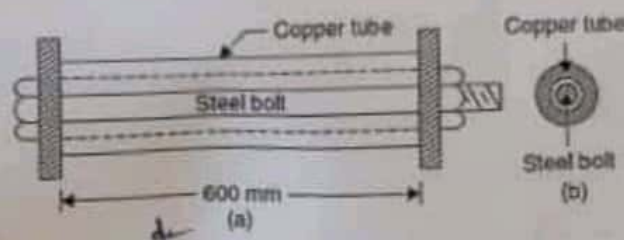

Fig. 1
- 1/✓ A steel bolt of 20 mm diameter passes centrally through a copper tube of internal diameter 28 mm and external diameter 40 mm as shown in Fig.1. The length of whole assembly is 600 mm. After tight fitting of the assembly, the nut is over tightened by quarter of a turn. What are the stresses introduced in the bolt and tube, if pitch of nut is 2 mm? Take  $E_s = 2 \times 10^5 \text{ N/mm}^2$  and  $E_c = 1.2 \times 10^5 \text{ N/mm}^2$ . [10]